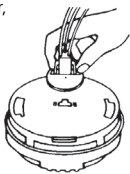
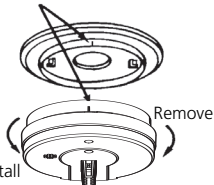

FIGURE 6
FIGURE 7
5. Plug the AC QUICK CONNECTOR into the back of the alarm (see figure 6), making sure that the locks on the connector snap into place. Then push the excess wire back into the electrical box through the hole in the center of the trim ring.
6. If you have finished all the WIRING, BATTERY INSTALLATION AND TRIM RING MOUNTING STEPS, you can install the alarm on the trim ring. Alignment marks are provided on the side of the alarm and on the trim ring (see figure 7).
7. Install the alarm on the trim ring with the indicating marks aligned and rotate the alarm in the direction of the "ON" arrow on the cover until the alarm snaps in place (see figure 7).
To replace the battery, remove the alarm from the trim ring by rotating the alarm in the direction of the "OFF" arrow on the cover (see section 4, figure 7). To disconnect the AC power harness, squeeze the locking arms on the sides of the Quick Connector while pulling the connector away from the bottom of the alarm (see section 4, figure 6).